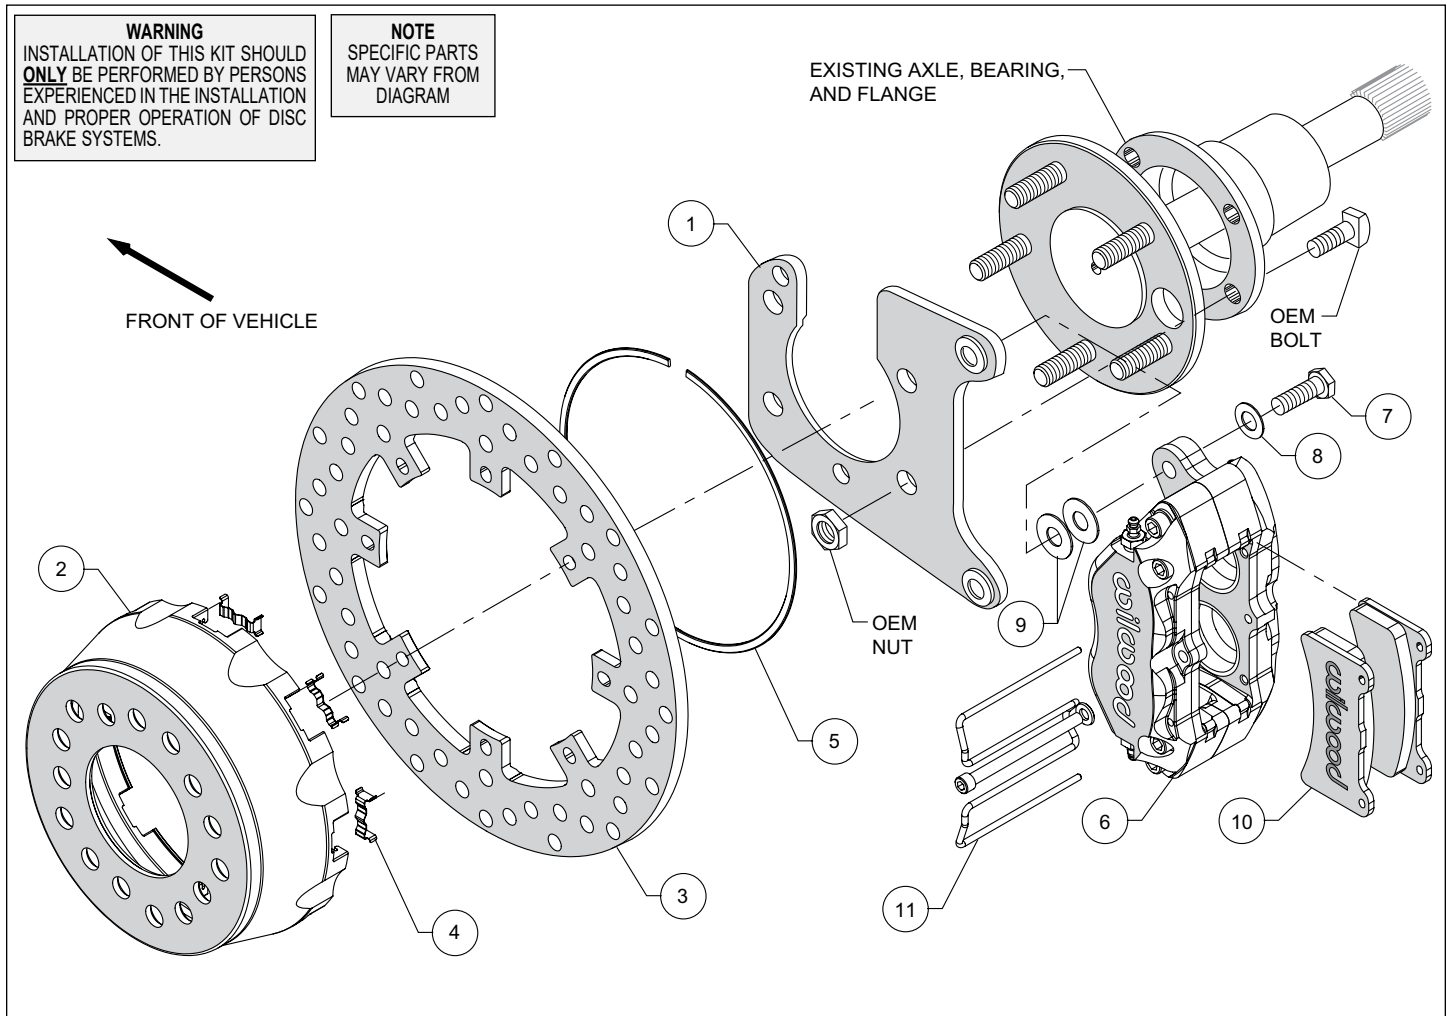
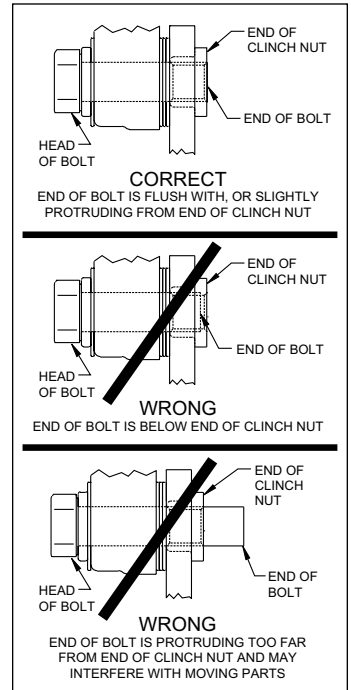
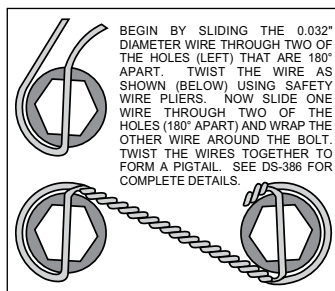

Figure 1. Typical Installation Configuration
Figure 4. Clinch Nut Engagement Diagram
Figure 5. Safety Wire Diagram
Assembly Instructions (numbers in parenthesis refer to the parts list and Figure 1 on the preceding pages): **CAUTION:** All mounting bolts must fully engage clinch nuts. Be sure to check that all bolts are either flush or protruding through flanged side of clinch nut after shimming, Figure 5.
- Install the caliper mounting bracket (1), with the slot for the axle pointing upward, to the housing flange using the OEM bolts and nuts, as shown in Figure 1 and Photo 1. Ensure that the heads of the clinch nuts are facing outboard, Photo 1. Apply red *Loctite*® 271 to the OEM bolt threads and torque to OEM specifications.
- Insert the dynamic mount wear clips (4) into the slots in the hat (2) making sure the tabs snap in place, Photo 2. Orient the rotor (3) as shown in Figure 1 and Photo 3, with the flush mount tab side facing the hat. Attach the rotor to the hat using snap ring (5) by pushing down on the rotor and installing the ring into the groove in the hat, as shown in Photo 4. Ensure that the ring is fully engaged in the groove.
- Align the correct hole pattern in the hat (2) with the axle stud pattern and slide the hat/rotor assembly onto the axle hub. **NOTE:** The hat must fit flush against the axle flange or excessive rotor run out may result. Install three lug nuts (finger tight) to keep the hat/rotor in place while continuing with the installation. **NOTE:** The hats included in this brake kit are drilled for .68" diameter wheel studs.
- NOTE:** Please reference the caution statement at the beginning of the assembly instructions. Mount caliper (6) onto the mounting bracket (1) using bolts (7) and washers (8), as shown in Figure 1. Initially place two .035" thick shims (9) on each bolt between the caliper and the bracket, Photo 5. Temporarily tighten the mounting bolts and view the rotor (3) through the top opening of the caliper. The rotor should be centered in the caliper, Photo 6. If not, adjust the caliper by adding or subtracting shims between the bracket and the caliper. Always use the same amount of shims on each of the two mounting bolts. **NOTE:** The end of each bolt must be flush with or slightly protruding from the head of the clinch nut. If necessary, place spare shims between washer and caliper mounting ear to achieve the proper clinch nut engagement, as shown in Figure 4. Once the caliper alignment and clinch nut engagement are correct, remove the bolts one at a time, apply red *Loctite*® 271 to the threads, and torque to 40 ft-lb. For an added measure of security, the bolts may be safety wired using standard 0.032 inch diameter stainless steel safety wire as shown in Figure 5. Please refer to Wilwood's data sheet DS-386 (available at www.wilwood.com/Pdf/DataSheets/ds386.pdf) for complete safety wire installation instructions.